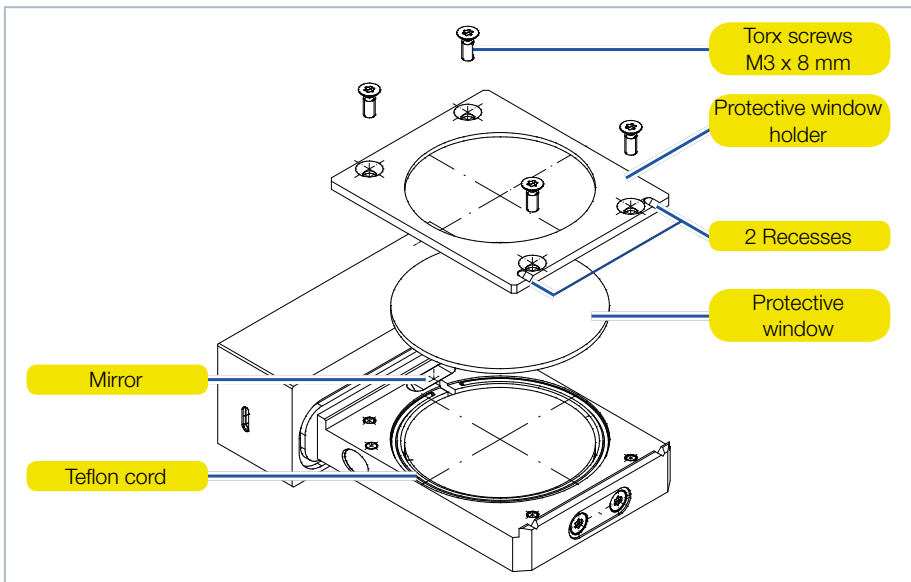

Fig. 15.1: Exchanging the Protective Window
3. Place the device as shown in Fig. 15.1 on page 43 and carefully remove the protective window holder upwards.
6. Place the protective window holder according to Fig. 15.1 on page 43 with the 2 recesses towards the front.